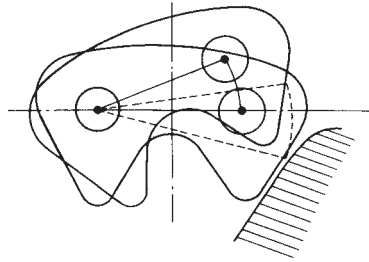

Figure 1.30 Silent Chain Strikes the Sprocket at an Angle, Reducing Noise
- (6) Because the link plates of Silent Chain strike the sprocket at an angle, the impact and the noise are reduced (Figure 1.30). This is why these chains are called “silent.” The higher the chain speed, the greater the difference from roller chains.